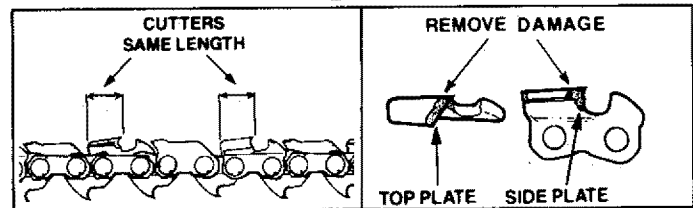

Figure 29
- d.) Keep all cutters the same length. Figure 29.
- e.) File enough to remove any damage to cutting edge (side & top plate) of cutter. Figure 29.